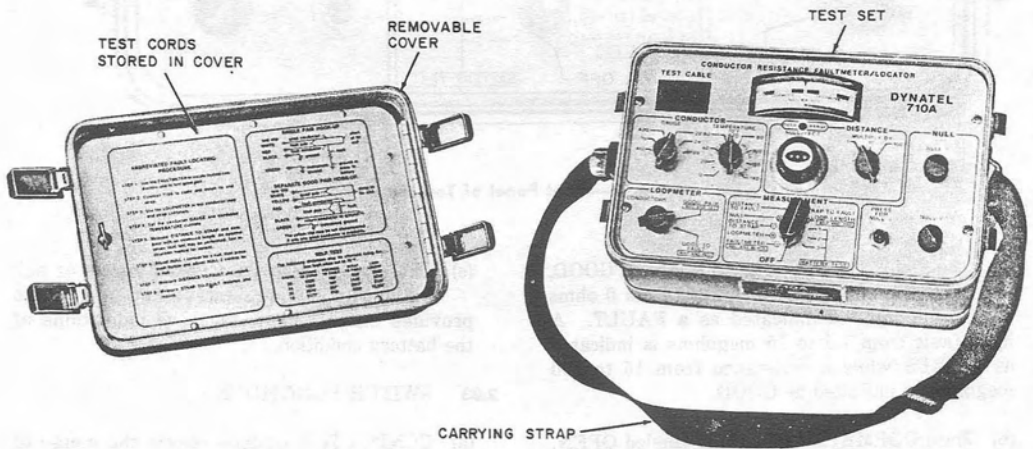

Fig. 1—Dynatel 710A Test Set
**1.01** This section covers the description and use of the Dynatel 710A Test Set (Fig. 1).